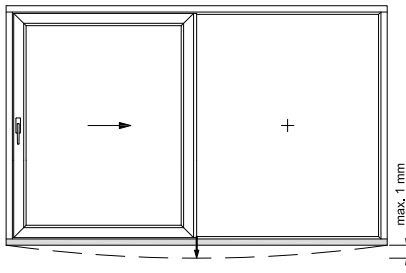

Fig. 1 In order to ensure the proper functioning and durability of the element, the maximum permissible deflection of the frame or base profile is 1 mm.
1.1 Maximum deflection of frame or base profile: ± 1 mm (Fig.1).